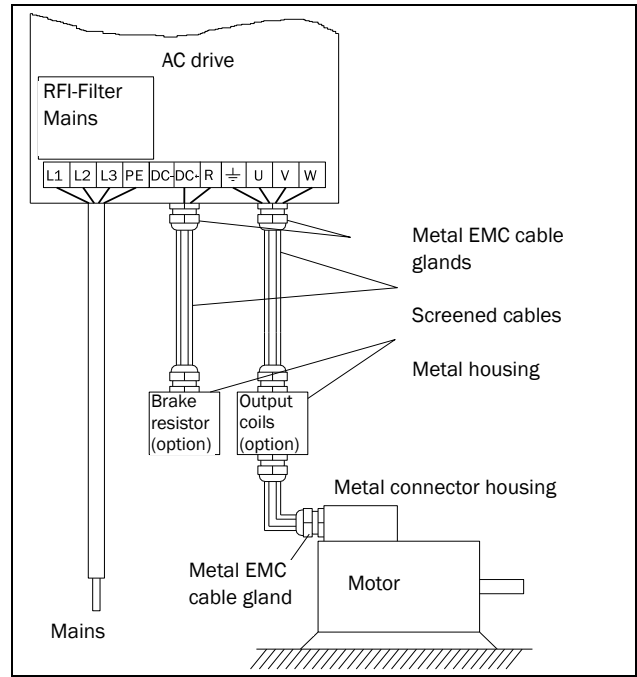

Fig. 54 Connection of mains and motor cables.
1. Connect the mains cables as in Fig. 54. The AC drive has, as standard, a built-in RFI mains filter that complies with category C3 which suits the Second Environment standard.
Connect the motor cables as in Fig. 54. To comply with the EMC directive you have to use screened cables and the motor cable screen has to be connected on both sides: to the housing of the motor and the housing of the AC drive.